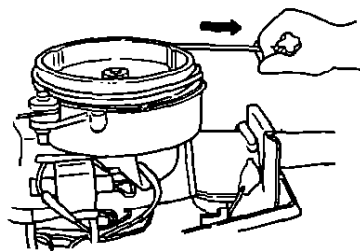

Fig. 23 Starting with the pull rope
- 2) Wind the pull rope around the flywheel. (Fig. 23)